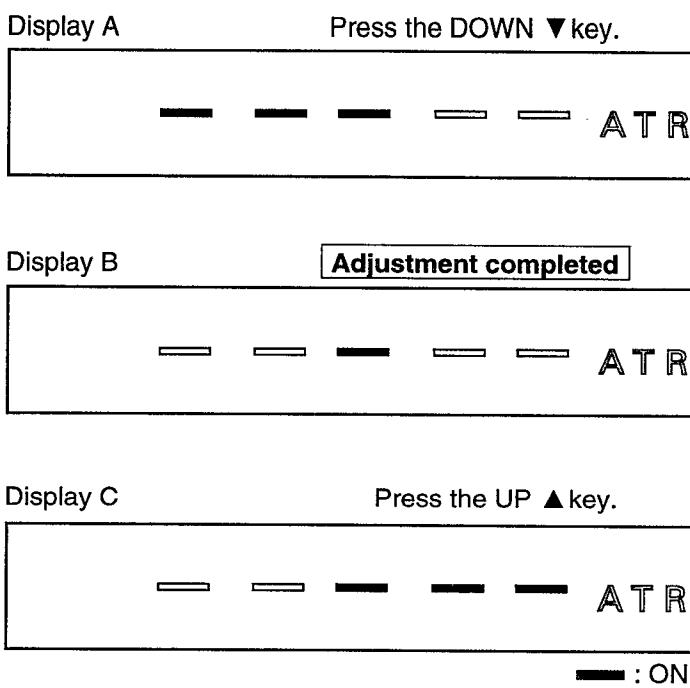

Figure 2
- (2) Playback the test tape and allow the automatic ATR to finish. The ATR is finished when "ATR" on the FIP stops blinking.
- (3) Connect the lead attached in step (1) to the Tuner (ETA01) earth line. Then, most of the segments on the FIP, for example, "ATR" goes OFF. See Figure 2 below. (Make sure that the lead can not come loose.)
- (4) Adjust the display for FIP (H701) with the CH UP/DOWN ( $\blacktriangle/\blacktriangledown$ ) keys until it is as shown in Figure 2 Display B below.
- (5) Remove the lead.